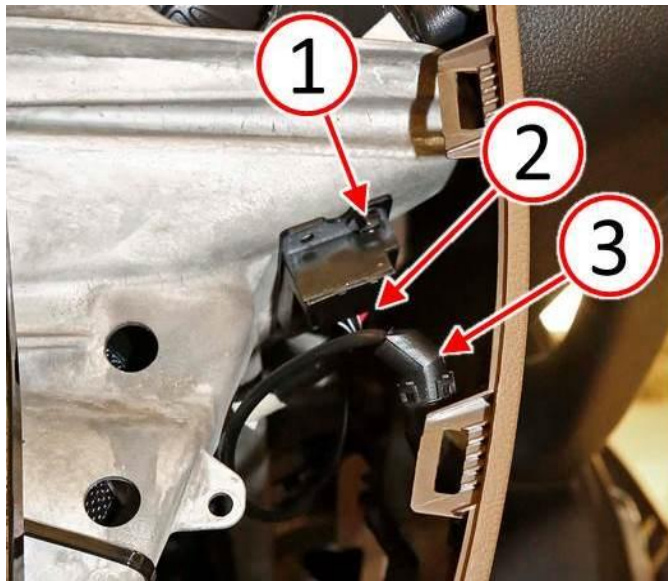

Fig. 8 Instrument Panel Left Side Alarm Sensor
17. Remove the alarm sensor microphone (3) from the reflector cone, located on the back side of the speaker grille (Fig. 8).
18. Disconnect the electrical connector (2) from the alarm sensor (Fig. 8).
19. Remove the two fasteners (1) securing the alarm sensor (Fig. 8).
21. Install the two fasteners (1) securing the alarm sensor (Fig. 8).
22. Connect the electrical connector (2) to the alarm sensor (Fig. 8).
23. Install the alarm sensor microphone (3) to the reflector cone, located on the back side of the speaker grille (Fig. 8).